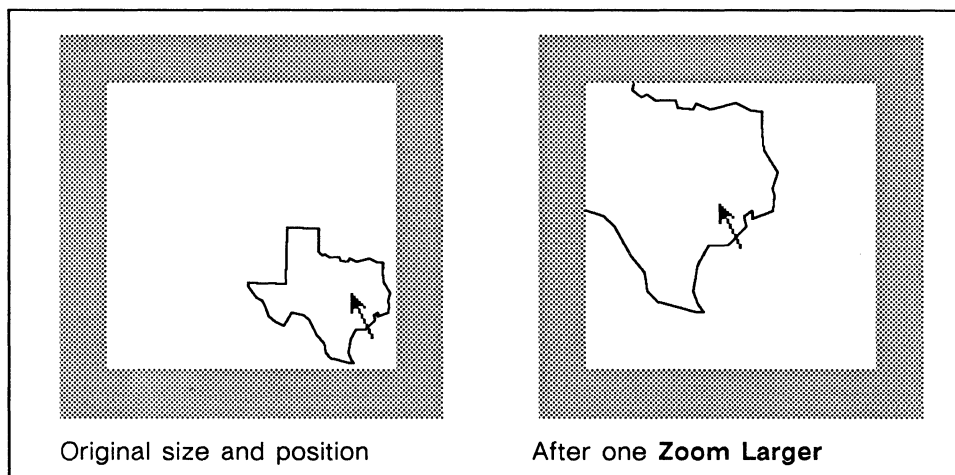

Figure 19-28. Results of Zoom Larger
**Larger** increases the size of the diagram by one multiple of the original size each time the command is executed, to a maximum of 16 times original size. For instance, if the diagram is at original size and you execute **Larger**, the diagram is doubled (Figure 19-28). If you execute **Larger** with the diagram at 14 times original size, it is magnified to 15 times original size.